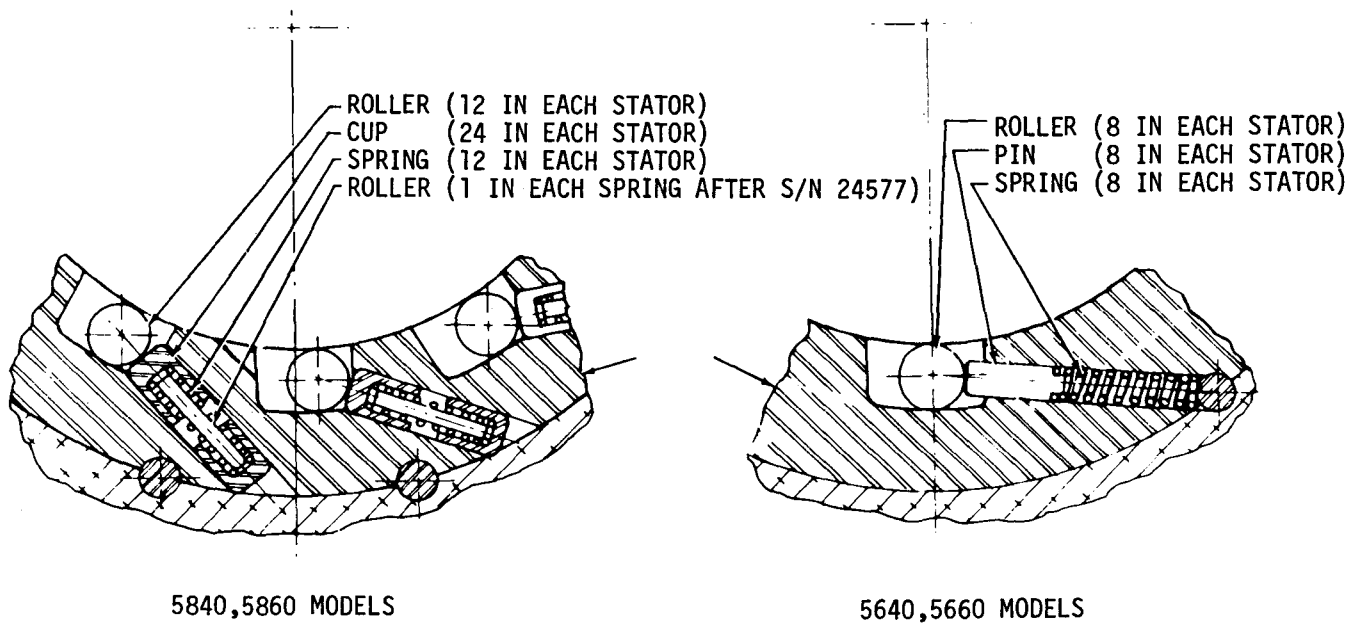

Fig. 6-3 Arrangement of stator freewheel components—cross-section, front view
(1) Each stator, during assembly, should be positioned front side upward on the assembly table. Each cam pocket (roller cavity) should be at least half filled with oil-soluble grease to help retain the parts.
(2) On 5640 and 5660 models, install eight springs 14 into first stator assembly 12. Install eight pins 13. Install eight rollers 15, pressing them into the deeper ends of the cam pockets. Refer to figure 6-3 for arrangement of the parts.
(3) On 5640 and 5660 models, install eight springs 19 (A, foldout 6), eight pins 18, and eight rollers 20 into second-stator assembly 17.
(4) On 5840 and 5860 models, install twelve springs 23 into cups 25, install needle rollers 24 (not used prior to S/N 24578) into springs 23, install cups 22 onto springs 23. Install the twelve assembled groups into first-stator assembly 12.
(5) Install twelve rollers 15 into first-stator assembly 12, pushing the rollers into the deeper ends of the cam pockets.
(6) On 5840 and 5860 models, assemble the parts and install them into second-stator assembly 17 in the manner described in (4) and (5), above. Use cups 26, springs 27, needle roller 28, cups 29, and rollers 20. Refer to figure 6-3.
(3) Install twelve rollers 8 into stator 4, pushing the rollers into the deeper ends of the cam pockets. Refer to figure 6-3.